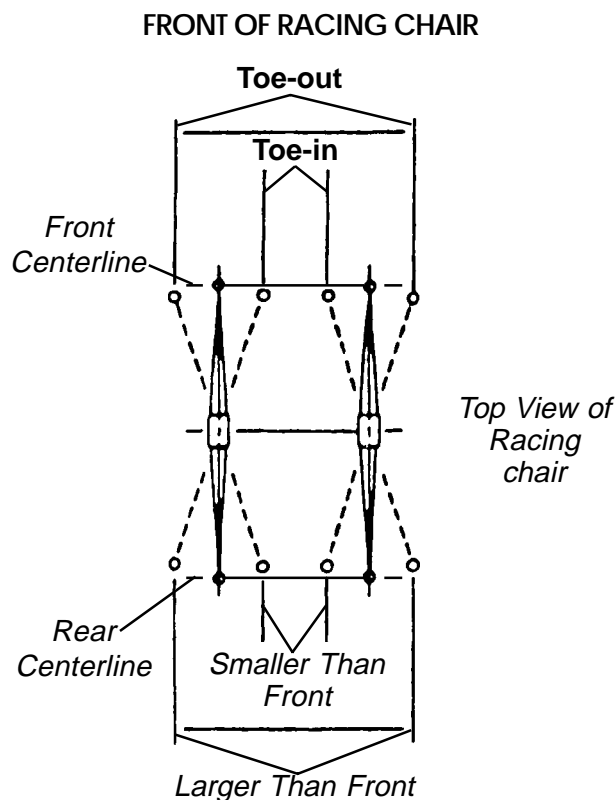

FIGURE 5 - DETERMINING TOE IN/TOE OUT
DETERMINING TOE IN/TOE OUT (FIGURE 5)
3. Determine the difference between the two (2) measurements. If the **difference** between the **two (2) measurements** is **GREATER** than **1/2-inch (0 ± 1/4-inch for maximum rollability)**, one (1) of two (2) conditions exists:
- a. If the **rear centerline measurement** of the rear wheels is **SMALLER** than the **front centerline measurement** of the rear wheels, a **TOE-OUT** condition exists (FIGURE 5).
- b. If the **rear centerline measurement** of the rear wheels is **LARGER** than the **front centerline measurement** of the rear wheels, a **TOE-IN** condition exists (FIGURE 5).